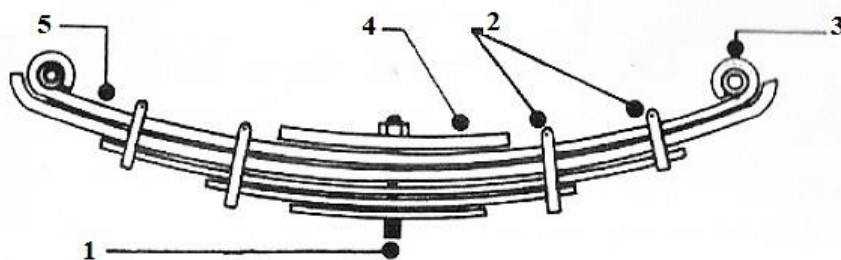

Figure 3
15. A vehicle was brought to the workshop with a suspension system shown in **figure 3** below.